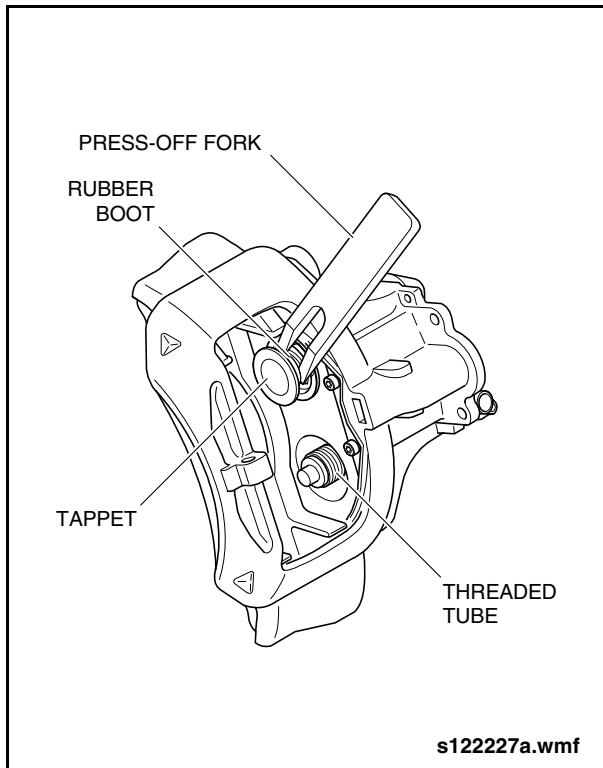

Fig. 2-133: Removing Tappets
3. Use a sharp knife to cut the rubber boot on the tappet. Insert the press-off fork tool (Item 81 from special tools list) between the tappet and the end of the threaded tube with the flat side of the forks against the threaded tube. See "Fig. 2-133: Removing Tappets" on page 116.